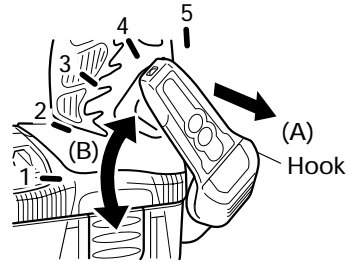

Fig. 9
- Pull out the hook toward you in the direction of arrow (A) and turn in the direction of arrow (B). (Fig. 9)